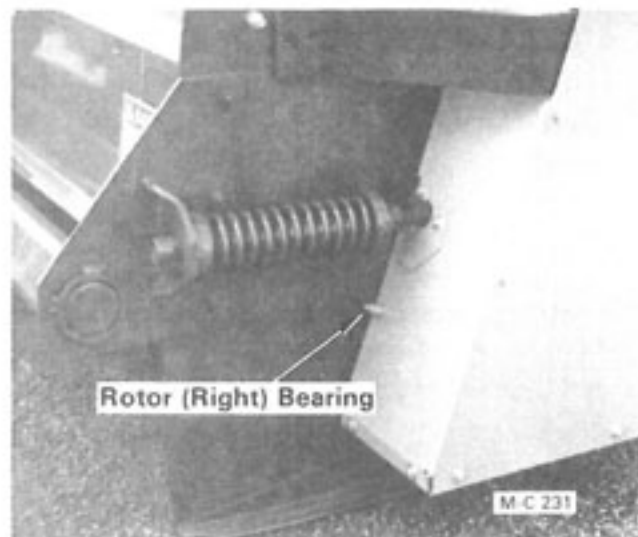

Figure 14
2. Rotor bearings. One fitting on each end of the rotor, see Figure 14 and 15.